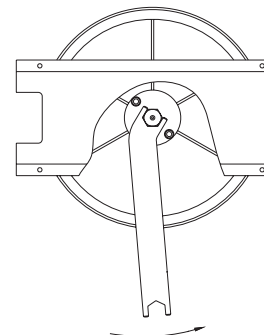
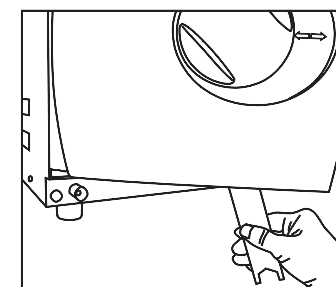

Fig 1
Fig 2
7.5.2 Insert the spanner in the gap beneath the plastic cover; use the spanner to lock on the adjusting nut (Fig 1). Turn the nut counter clockwise as the figure below (Fig 2). This will tighten the sealing plate.